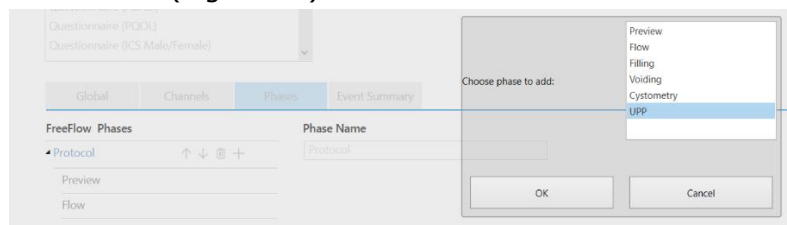

Figure 44: Adding a Phase to a Custom Workflow
- ii. The **Phases** tab provides a phase layout for the workflow selected. Update phase layout for custom workflows by using the plus  $+$ , up/down  $\uparrow \downarrow$ , and delete  $\square$  icons provided. Rearrange or delete phases under the **Protocol** heading by clicking on the phase heading and using the appropriate icon to complete the change. To add a phase, Select the **Protocol** heading and click the plus button. Select the desired phase from the popup window and click **OK** (Figure 44).